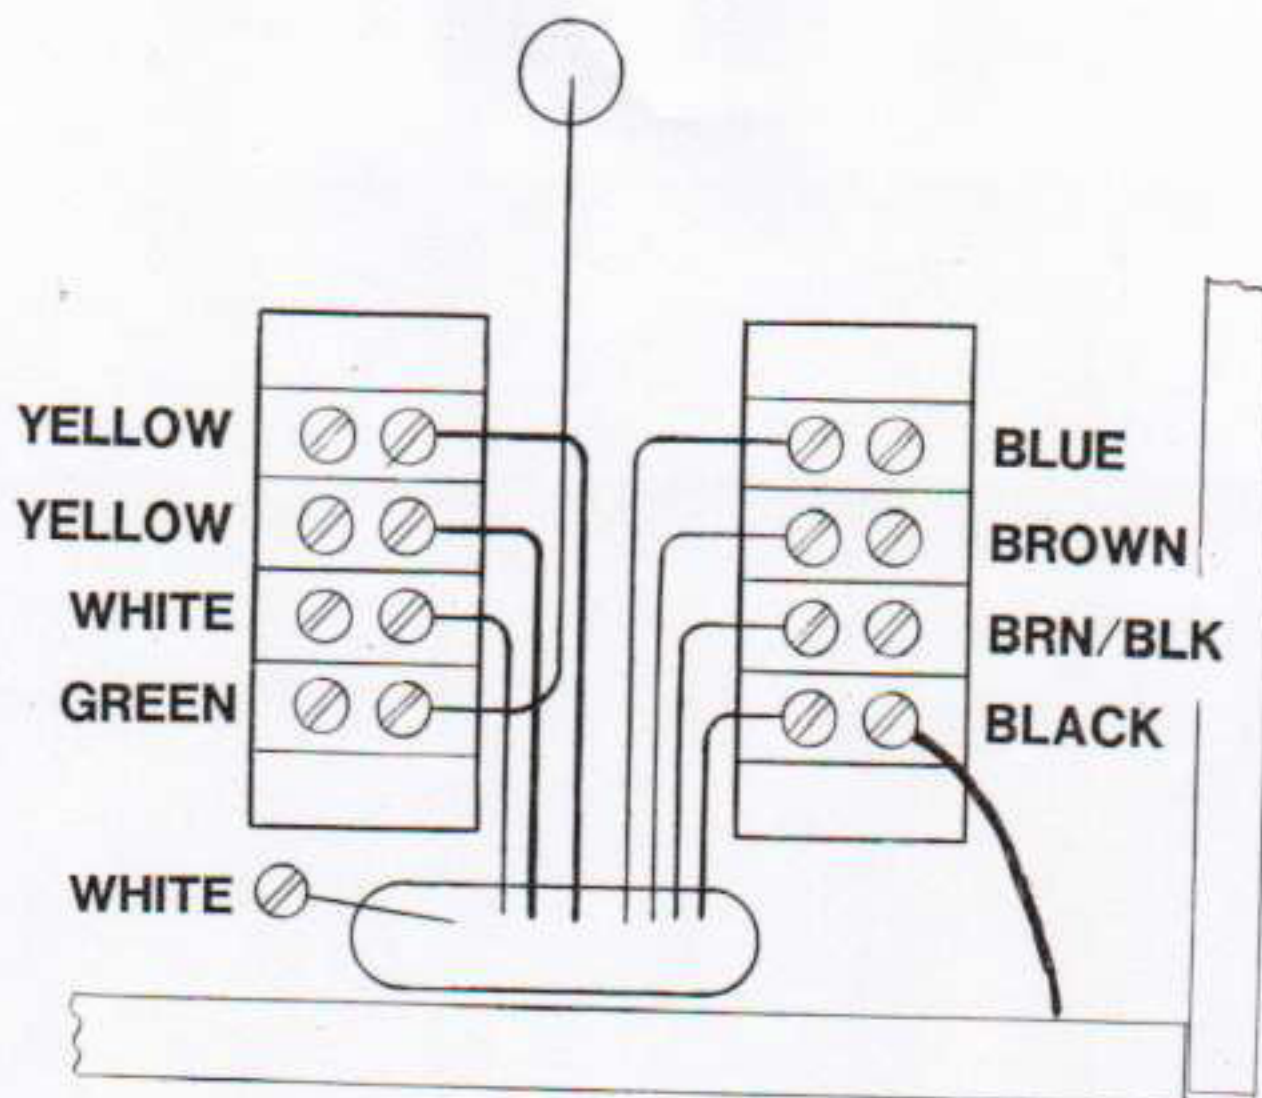

Figure 2-2 Transformer Lead Connections
- c. Lift the filament choke ends (to expose the transformer screw mounting hole) by removing the 2 screws from the terminal block (yellow leads — figure 2-2).
- g. Slide the short tubing, securing the transformer leads, toward the transformer base and attach the transformer wires to the proper screw terminals as shown in figure 2-2. Double check that the proper wires go to the correct terminals. This *must* be carefully checked as mis-wiring may cause damage.